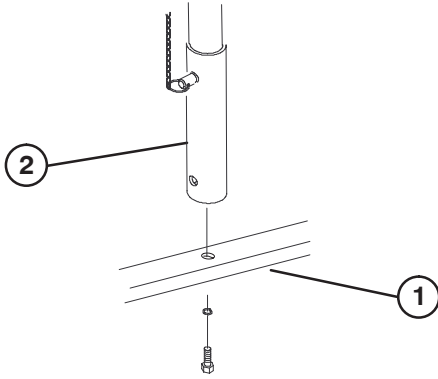

Figure 8
1. Remove bolt and nut securing rear castor/safety stand tube to shipping pallet (Fig. 8). Retain bolt and washer for installation of castor wheel.